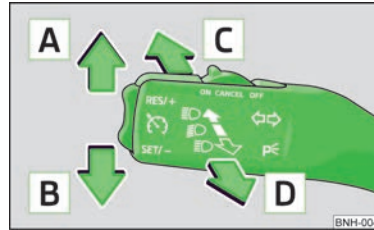

Fig. 21
- Push the lever » Fig. 21 upwards or downwards .
- Press the lever » Fig. 21 in the direction of arrow .
- Pull the lever » Fig. 21 towards the steering wheel (spring-tensioned position) in the direction of the arrow .
- Pull the turn signal light lever » Fig. 21 on page 36 upwards or downwards - the side light on the right or left side of the vehicle is switched.